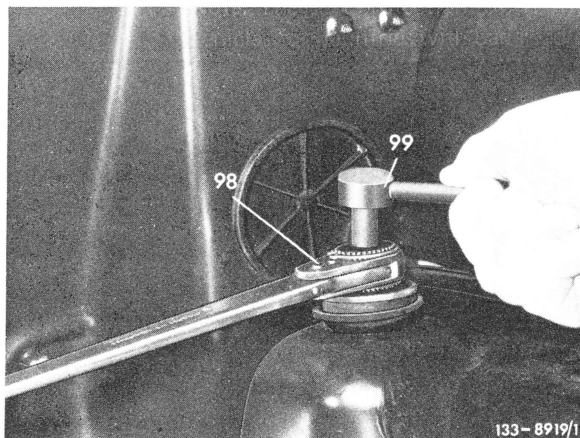

Fig. 6
**11** Insert shock absorber and mount upper suspension, making sure that the parts are correctly seated. Tighten the lower of the two hexagonal nuts to the end of the thread, then counterlock with the upper nut (Figs. 6 and 8).